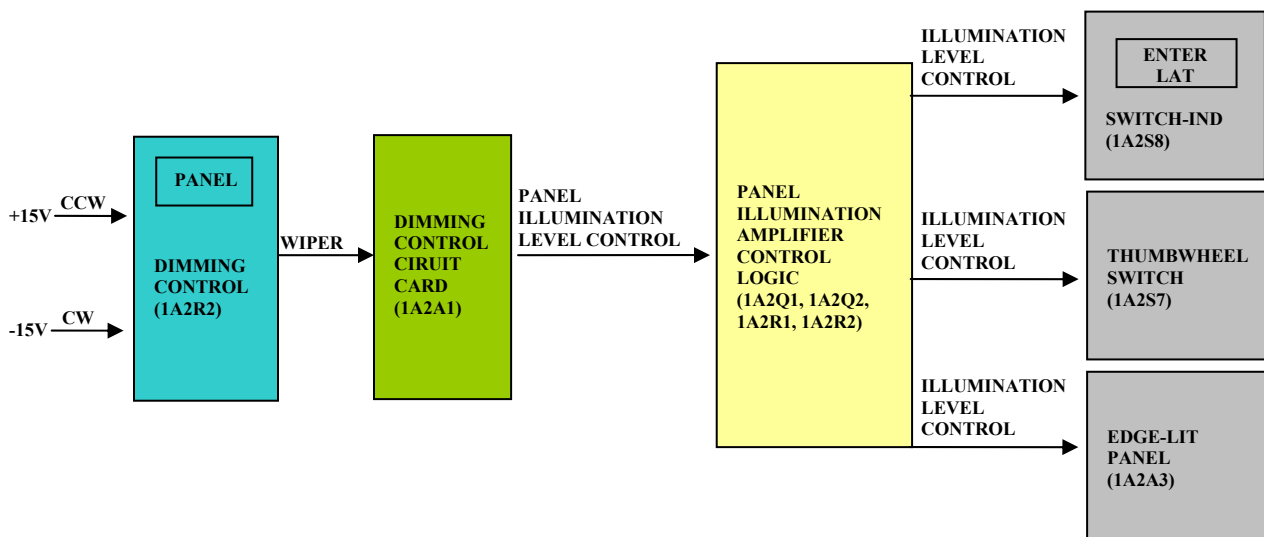

Figure 4-39.—Panel lighting dimming block diagram.
Two circuits control the level of illumination of the control-indicator's panel lighting and indicators. These circuits are illustrated in block diagrams in figures 4-39 and 4-40.
**PANEL LIGHTING.**— The control indicator panel lighting is controlled by a potentiometer marked PANEL. The PANEL potentiometer is excited by  $\pm 15$  volts dc. The potentiometer adjusts a biasing level applied to the illumination sensing circuit in the dimming control circuit card. The output of the sensing circuit drives the dimming control amplifier. The output of the dimming control amplifier is an aboveground variable voltage determined by the position of the PANEL potentiometer. Figure 4-39 identifies the lights controlled by the PANEL potentiometer.